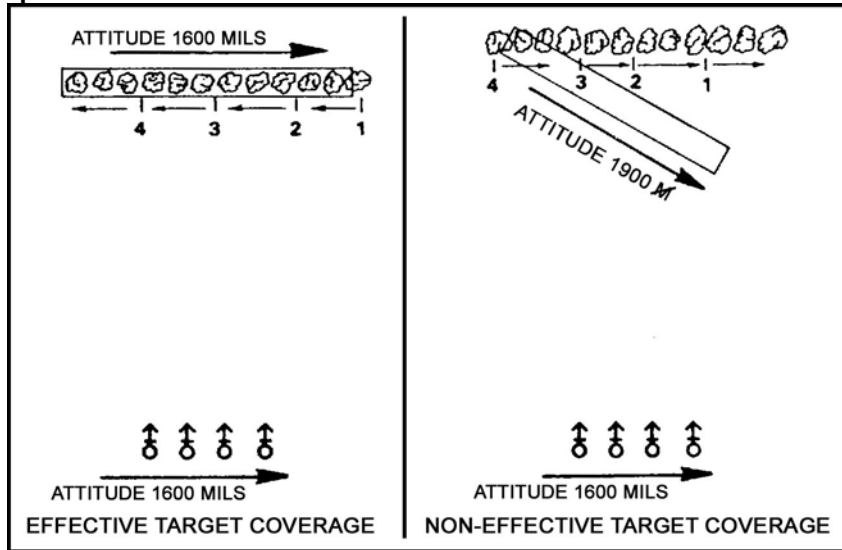

Figure 2. Traversing fire.
b. To effectively engage a target using traversing fire (Figure 2), he must ensure that the attitude of the target does is not different more than 100 mils from the attitude of the mortar section.